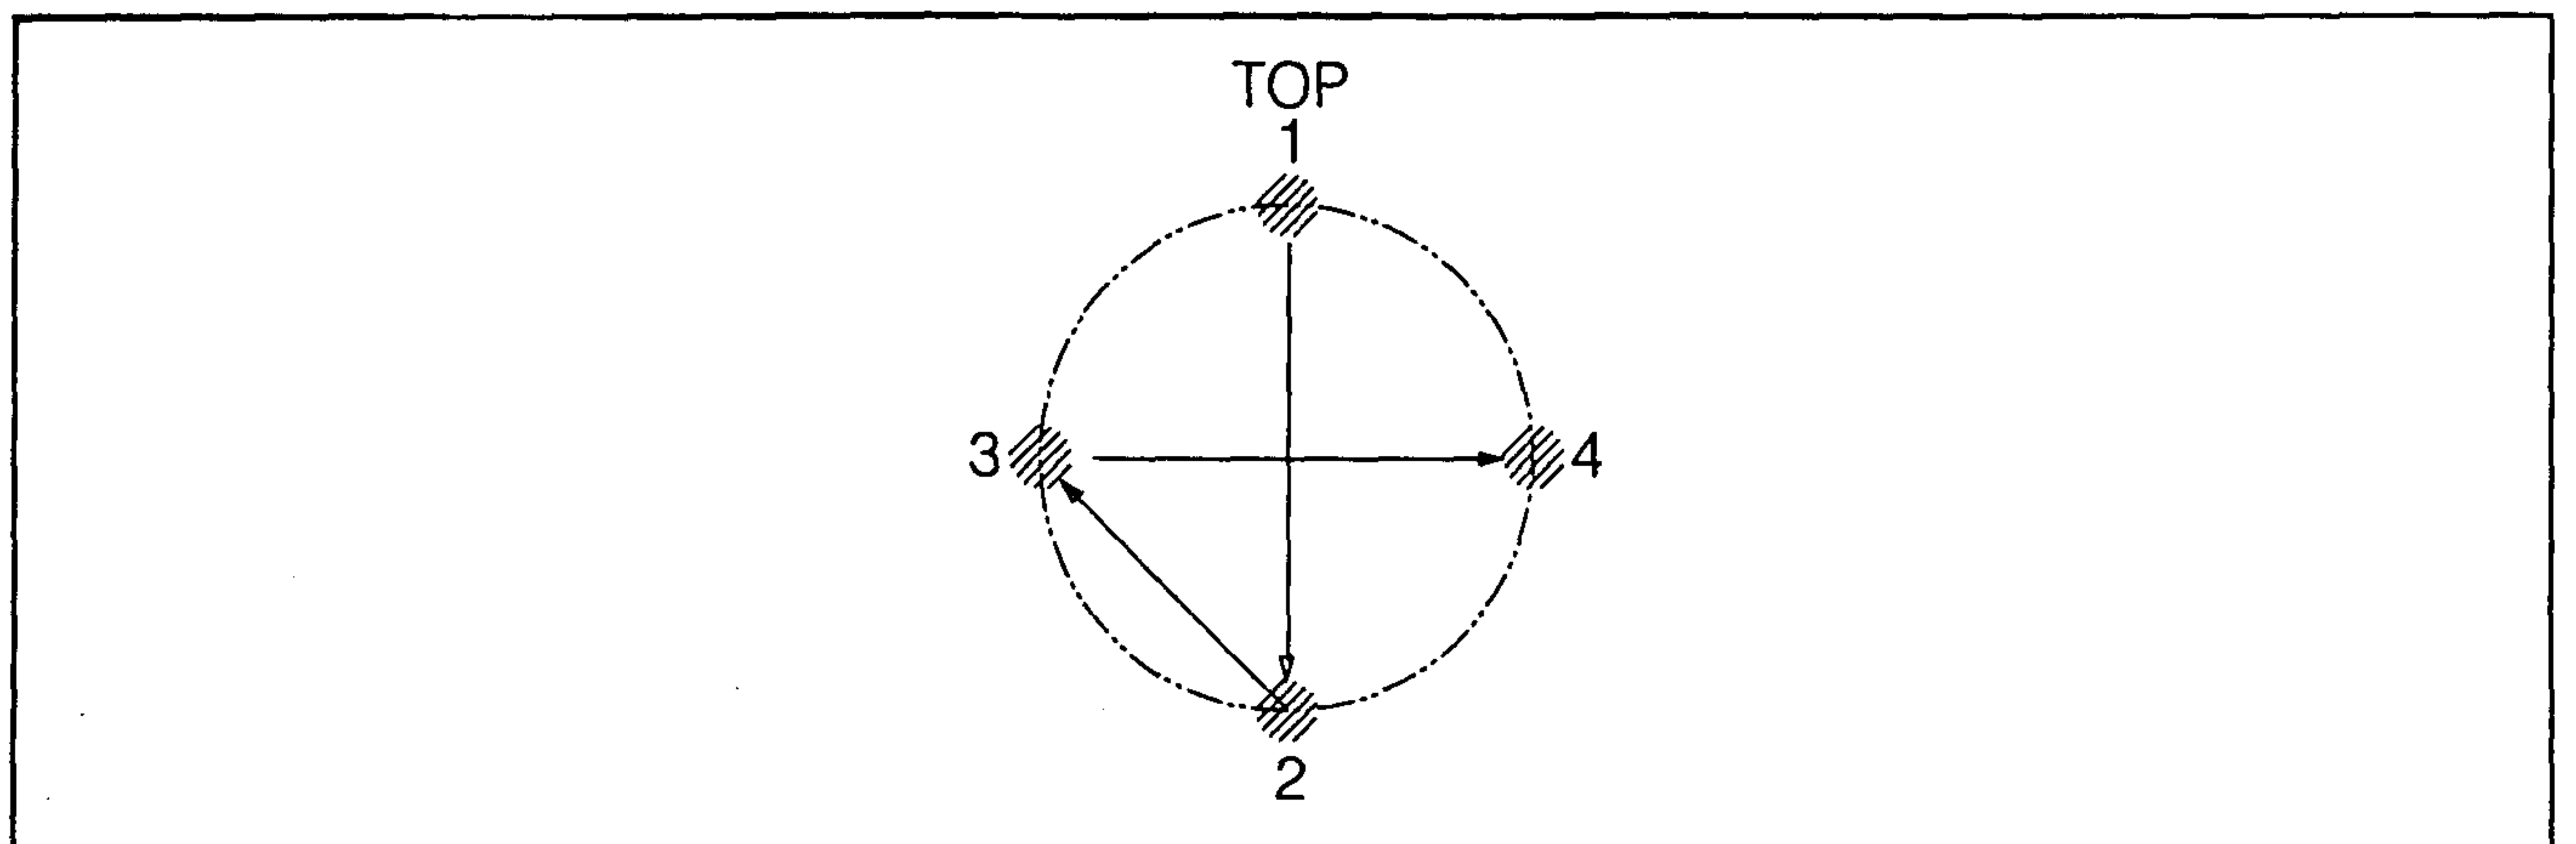

Figure 3
6. Finger tighten top nut, then rotate the wheel so that the number 2 nut (see Fig. 3) is at the top and finger tighten. Finger tighten remaining nuts in numerical (criss-cross) order.
7. Torque top nut to 50-60 ft.-lb. (600-700 in.-lb.). Rotate wheel so that the number 2 nut (see Fig. 3) is at the top. Torque nut to 50-60 ft.-lb. (600-700 in.-lb.). Torque remaining nuts in numerical (criss-cross) order.